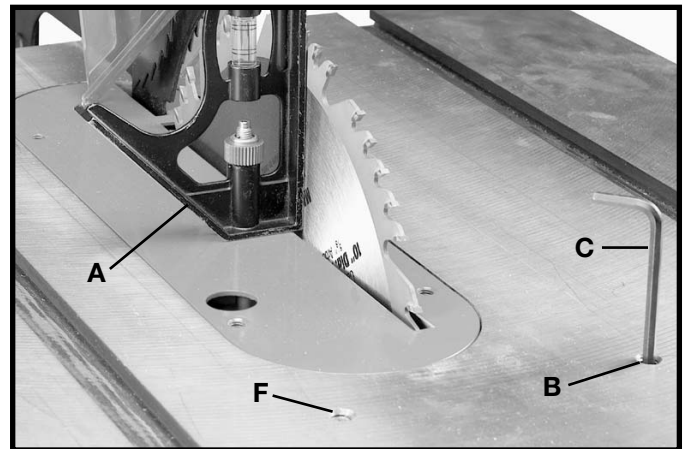

Fig. 99
4. Using a combination square (A) Fig. 99, check to see if the blade is at 90 degrees to the table surface as shown.
5. If the blade is not at 90 degrees to the table, loosen set screw (B) Fig. 99 with supplied wrench (C), and turn the blade tilting handwheel until you are certain the blade is at 90 degrees to the table. Turn set screw (B) clockwise until it bottoms.
8. If the blade is not at 45 degrees to the table, loosen set screw (F) Fig. 99, and turn blade tilting handwheel until you are certain the blade is 45 degrees to the table. Turn set screw (F) clockwise until it bottoms.